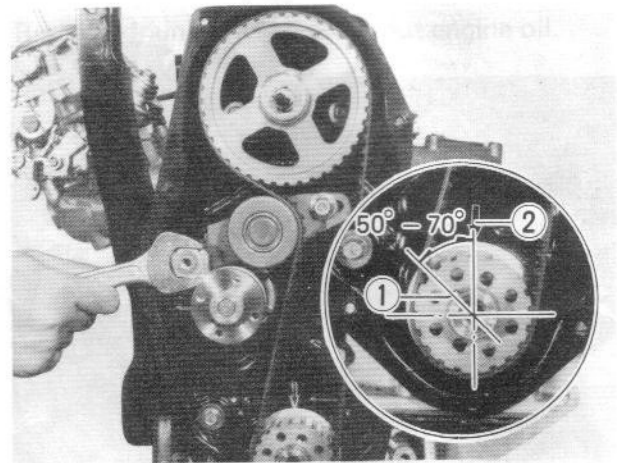

Fig. 4-18
Before removing the tensioner, turn over the crankshaft to bring its keyway ① to a point between 50° and 70° on the left side of mark ② provided on the timing belt inside cover. See Fig. 4-18. This positioning is necessary in order to prevent the piston crown from coming into contact with the valve. The valve could be damaged if this contact should occur. Never rotate camshaft or crankshaft before the cylinder head or rocker arms are removed.